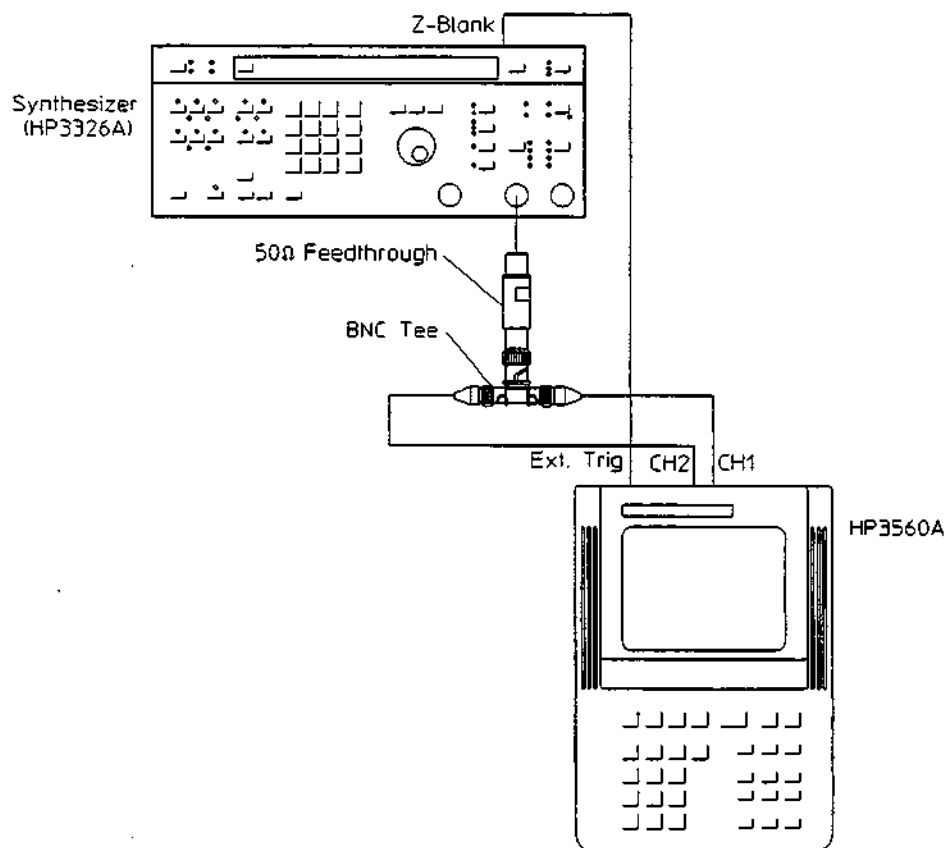

Figure 3-8.
1. Connect the synthesizer output to both channel 1 and channel 2 inputs as shown in figure 3-8. Connect the synthesizer Z-BLANK output to the External Trigger input of the HP 3560A using a BNC cable.